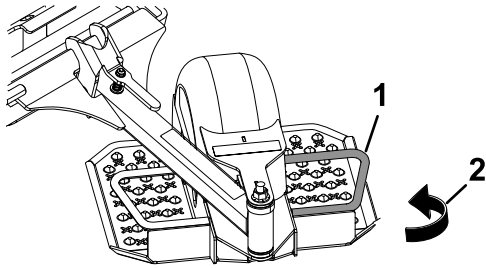

Figure 26
2. Slowly and carefully rotate the StandOn until it contacts the drawbar (see Figure 26).